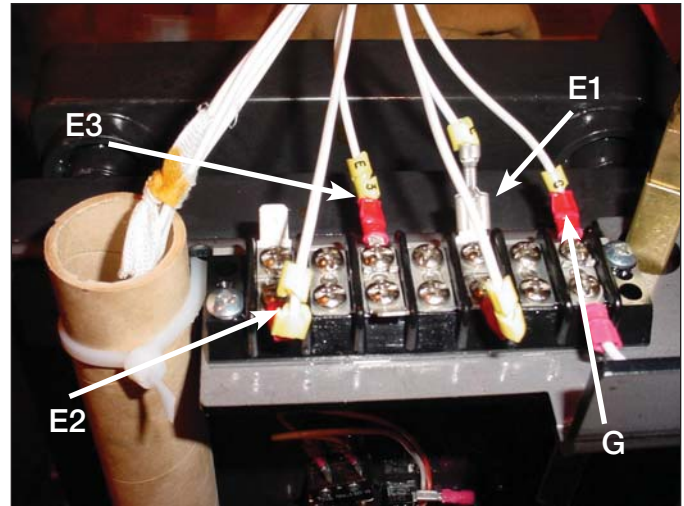

Figure 6.
- Use a Phillips head screwdriver and needle nose pliers to disconnect the white E control winding leads and P leads, if available, from the seven position terminal board located on the left top of the tap changer. See Figure 6.